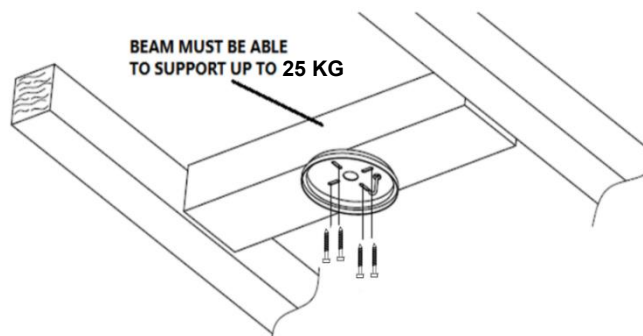

Fig. 2
- Install the hanging bracket to the ceiling joist or structure that is capable of carrying a load of at least 25 kg, with 4 long screws provided. Ensure at least 30mm of the screw is threaded into the support. (Fig. 2)